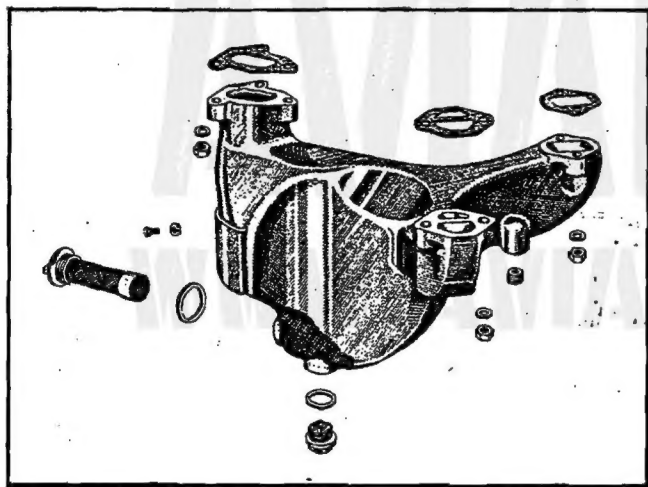

Figure 7—Oil Sump
5. The oil sump is attached to the bottom of the crankcase front section and the supercharger front housing. See figure 7.